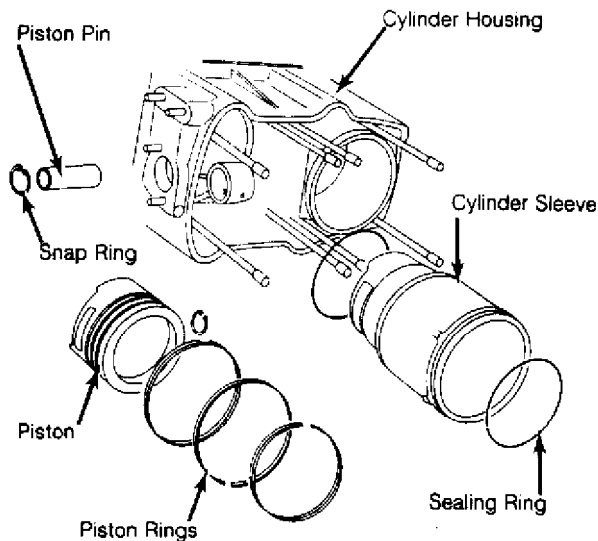

Fig. 7: Installing Cylinder/Piston into Cylinder Housing
2) Using slide hammer and Clamping Puller (3092), pull out sleeve until piston pin snap ring is visible through hole in cylinder housing. Remove piston pin circlip. See Fig. 7.